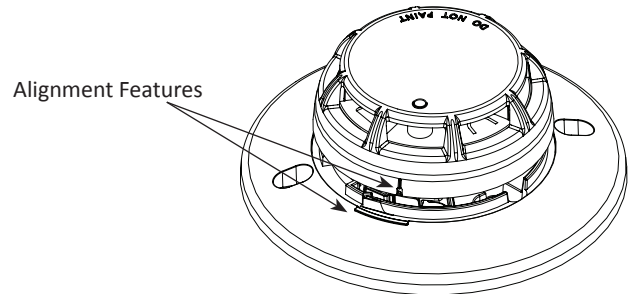

FIGURE 2: Assembly of Detector
3. To install the detector head onto the base, match the detector heads to the base using the alignment feature and twist clockwise until the detector heads snap into place (FIGURE 2).